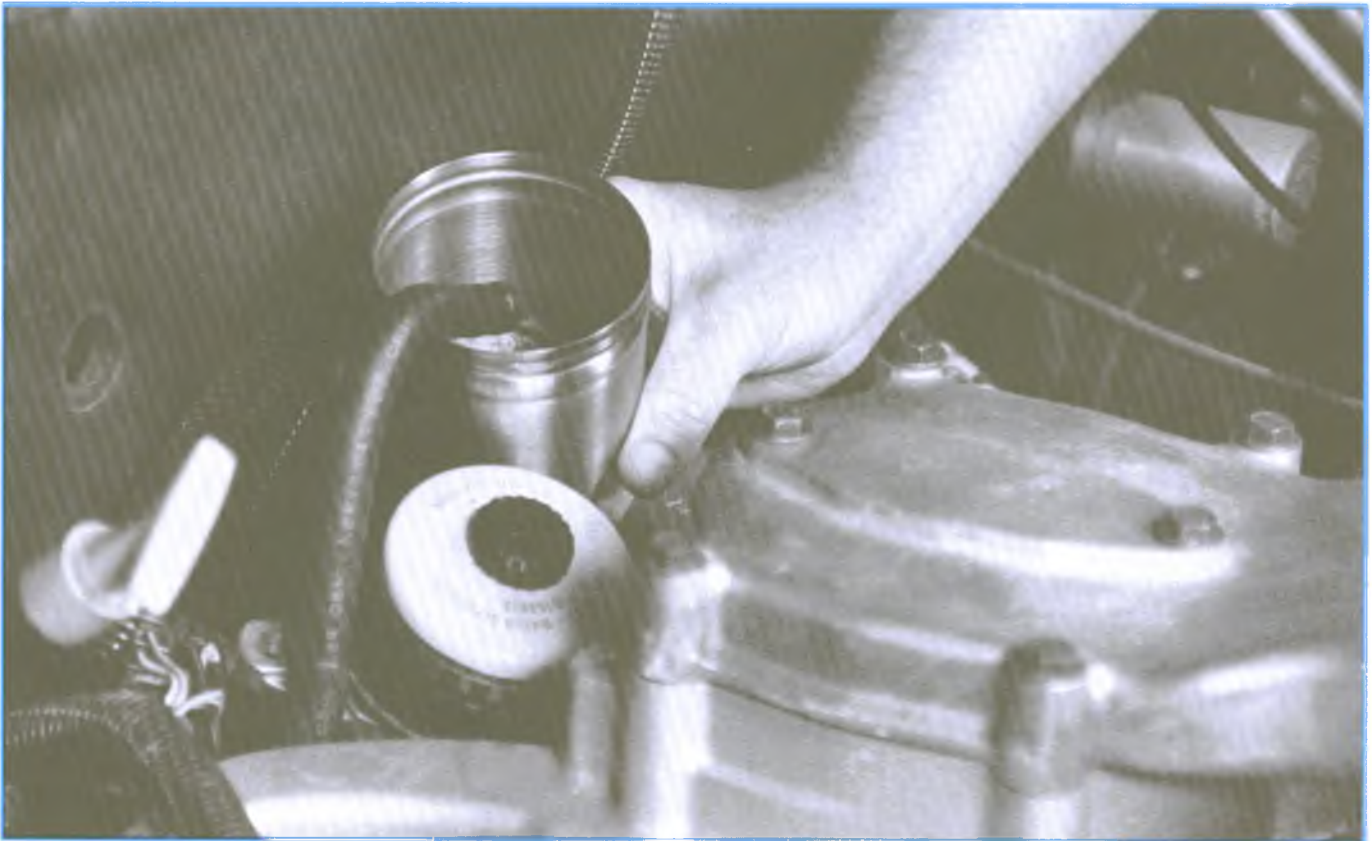

Figure 7-65, Volume Check at Lift Pump Pressure Line
- C. Repeat the lift pump output volume check (see Figure 7-65):